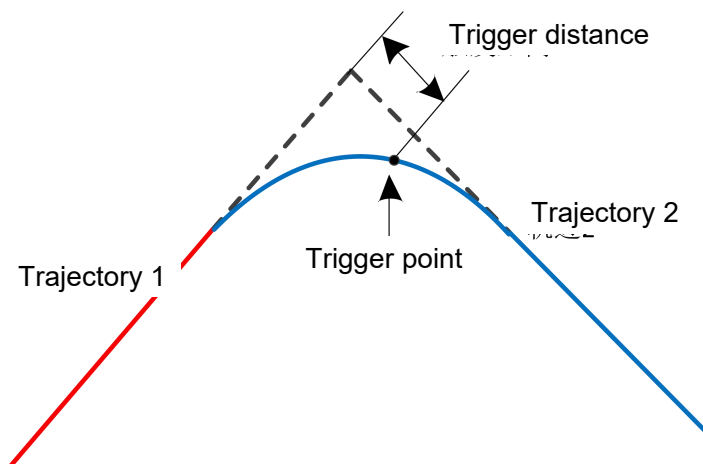

Figure7-1 Trajectory trigger
- If the slip behavior is specified, the trajectory of the slip part will be considered to be the next trajectory, so if you want to trigger an event during the slip trajectory, you must declare the trigger event before the second trajectory. The trajectory distance will still be calculated from the target point when the previous track is not slipped, as shown in Figure7-1.